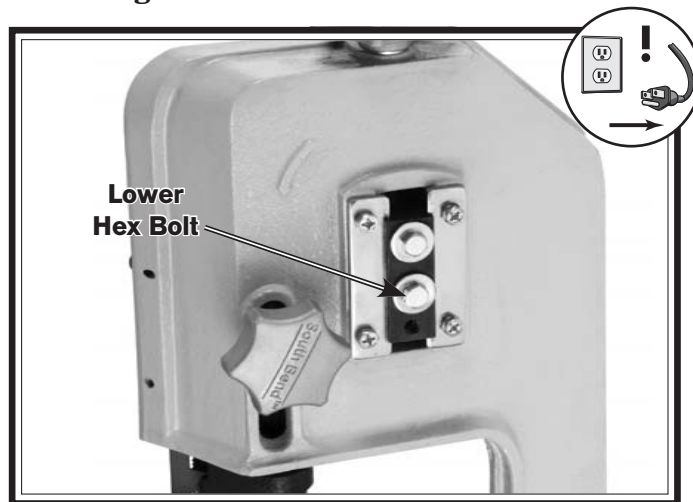

Figure 45. Blade tracking adjustments.
4. Loosen, but do not remove the lower hex bolt in the blade wheel tilting mechanism shown in **Figure 45**.